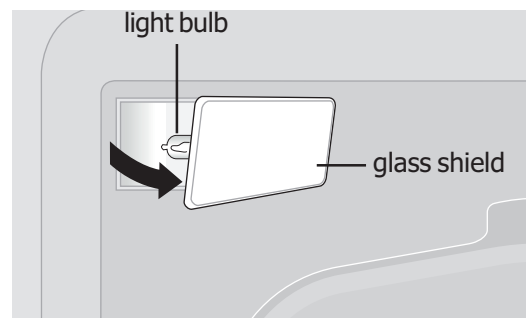

Figure 35: Light shield and bulb
2. To remove the glass shield, pull the back side of the shield toward the inside of the oven in a manner to lift it up from the oven side. The glass shield should come out easily by pushing a little toward front of the wall oven (Figure 35).